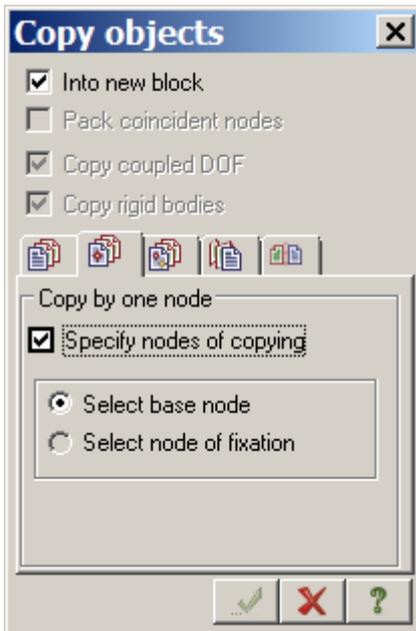

Figure 4.9 Copy objects dialog box
- ⇒ The **Copy objects** dialog box is presented with the **Copy by one node** tab open (see Fig.4.9).